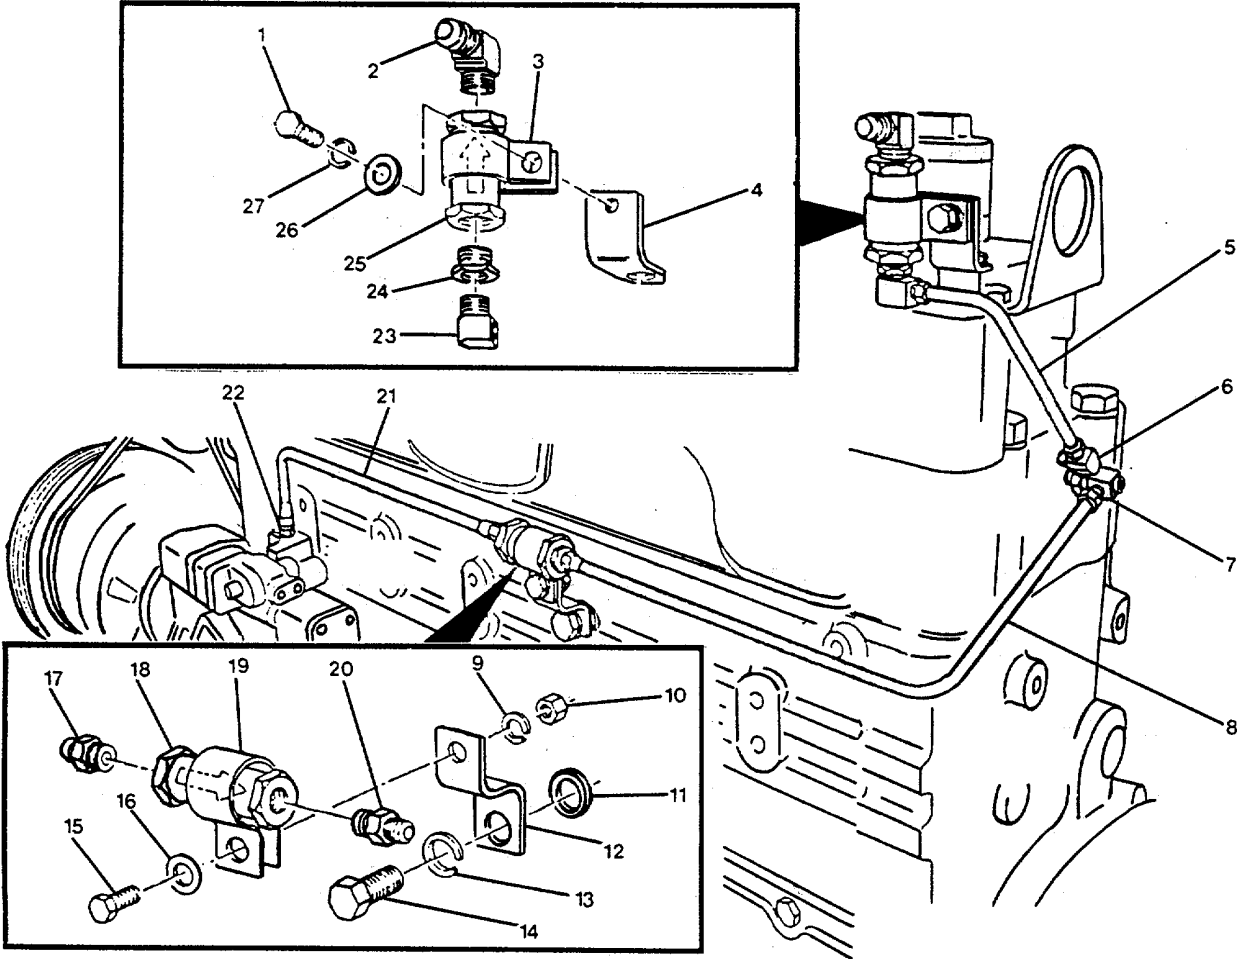

FIGURE 2-22. Fuel Line Check Valves.
- (4) Air supply hose (2).
- (5) Fuel supply to the engine (3) (fuel outlet connection).
- (6) Gear pump cooling drain (5).
- d. Connect shutoff valve (4) electrical wires and remove tags.
- e. Connect the governor actuator (1) wires and remove tags.
**2-38. REPLACE/REPAIR FUEL TUBING GROUP. (FIGURE 2-22)**